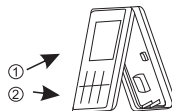

Fig.4
5. After connecting the connecting wire to the main body of the wire controller, as shown in Fig. 4, install main body part according to the following steps: